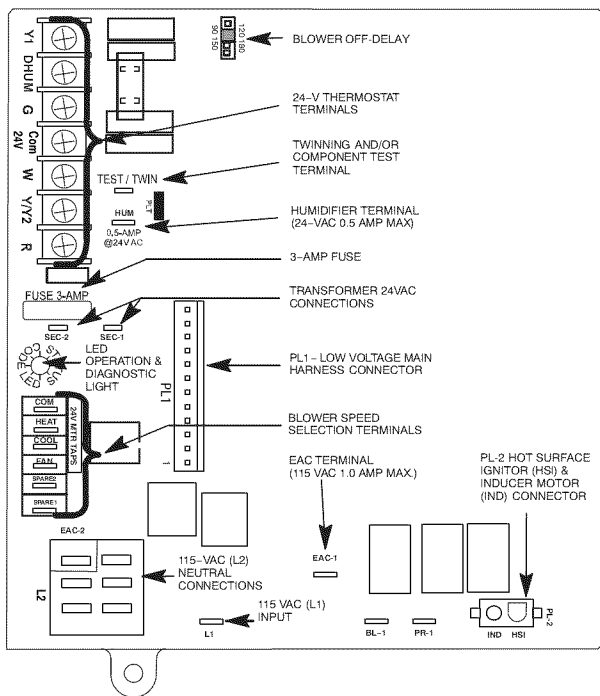

Fig. 14 - Single-Stage Furnace Control
1. Jumper R and W thermostat connections to call for heat. (See Fig. 14.)